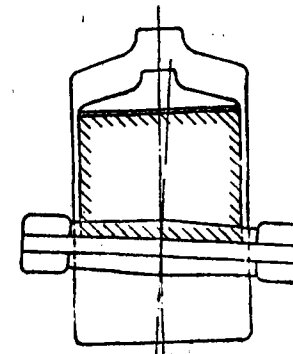
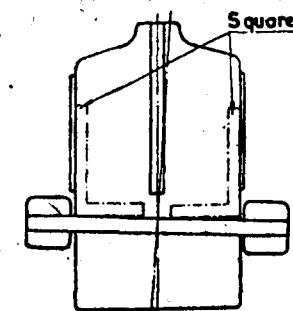

FIG. 11
FIG. 12
(2) *Table out of square with the knife* (FIG. 11). To check the position of the table in relation to the knife and frame, an exact square should be placed against the rear table side-plate and the knife (FIG. 12). If a large enough square is not available, a piece of thick cardboard cut to 90° can be used. The squareness of the table to the knife can be adjusted by loosening the table securing-screws, setting the table square by adjusting the set-screws to the frame, and tightening the securing-screws.